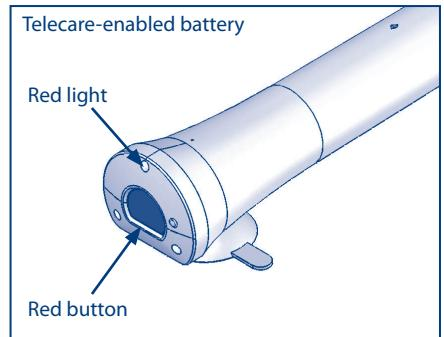

Figure 3
If you have a telecare-enabled bath lift, you will find a telecare-enabled battery inside your bath lift box rather than the standard battery (see fig 3).
- iii) Press the red button on the end of your bath lift's telecare-enabled battery (see fig 3) and a red light will illuminate at the end of the battery. The Lifeline unit will bleep to confirm acceptance.
- i) To raise an alarm while using the bath lift, press the red button on the end of the battery (see fig 3). This will allow you to talk to the control centre operator 'hands free' using the powerful speaker and microphone of the Lifeline 400, 4000+ and Connect+.